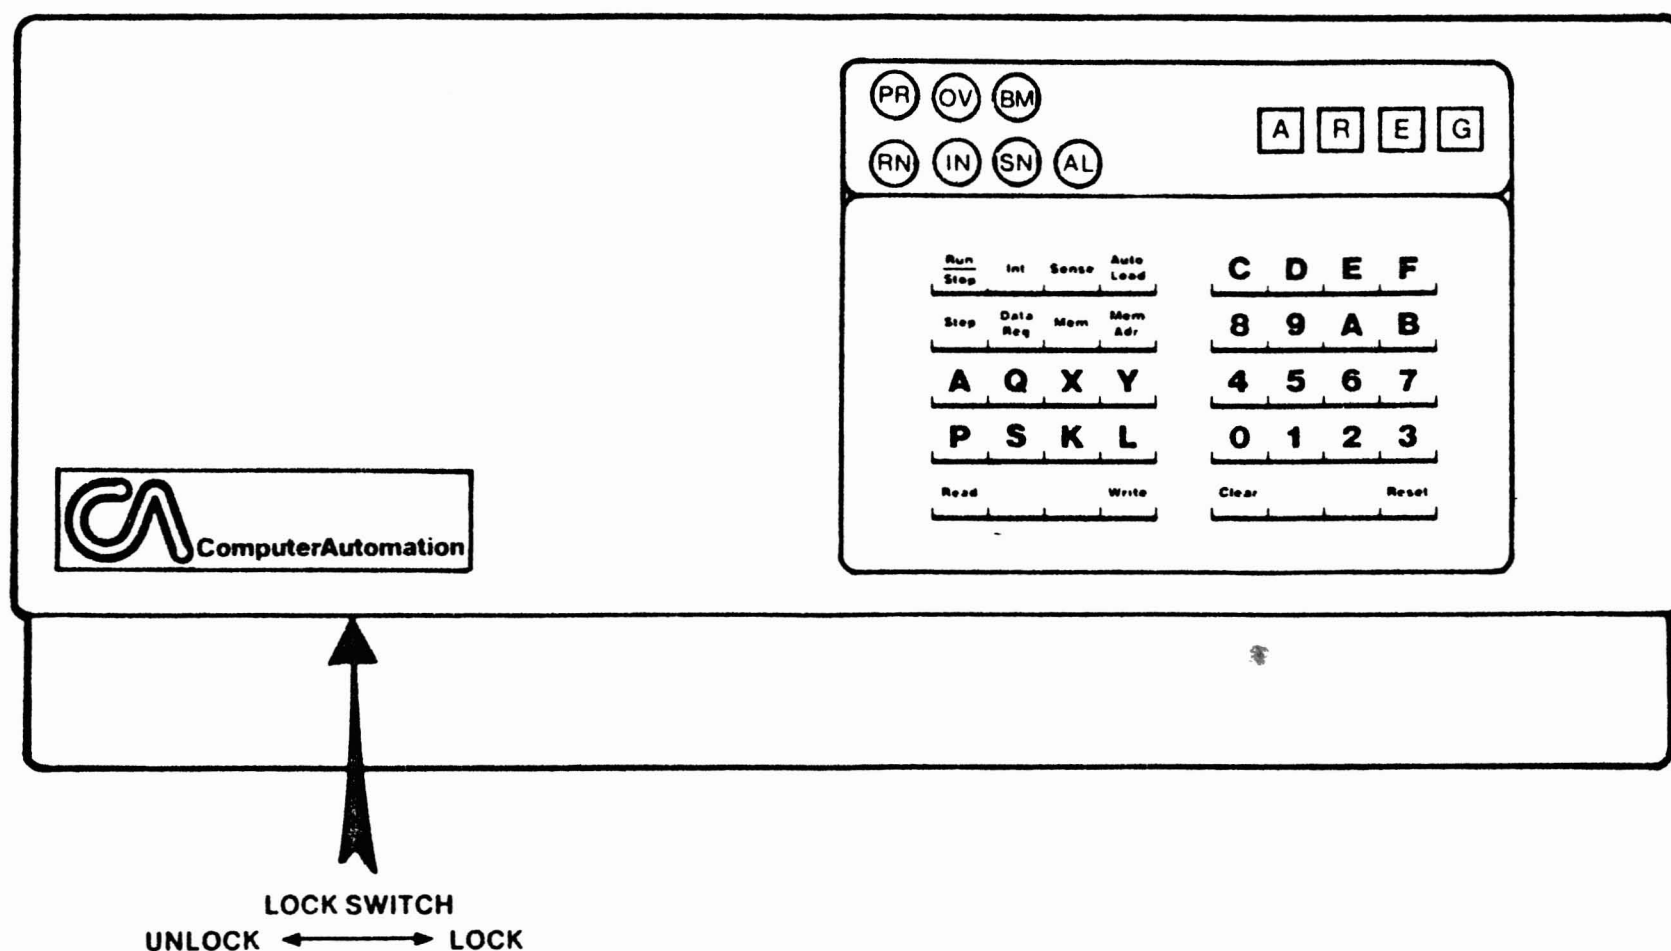

Figure 3-1. Programmer's Console
- PROGRAMMER'S CONSOLE--The Programmer's Console is a full-function console. The Console allows the user to read data from or write data to selected registers and memory locations and to establish the operating mode of the processor. (Figure 3-1)